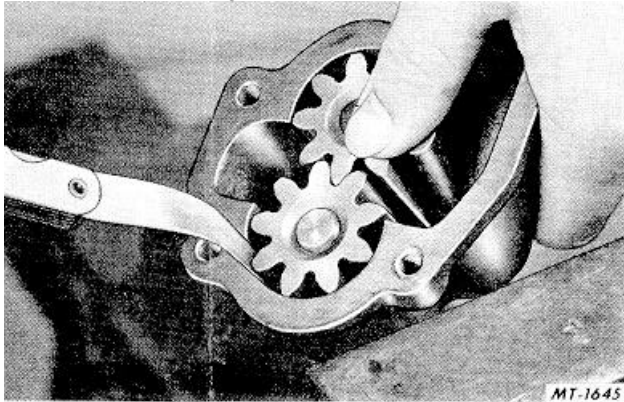

Fig. 125 Measure Pump Gear-to-Body Clearance
3. While holding the gears in this manner, measure the clearance between outside diameter of gear and bore of housing, Fig. 125. Clearance should be within the limits given in specifications.